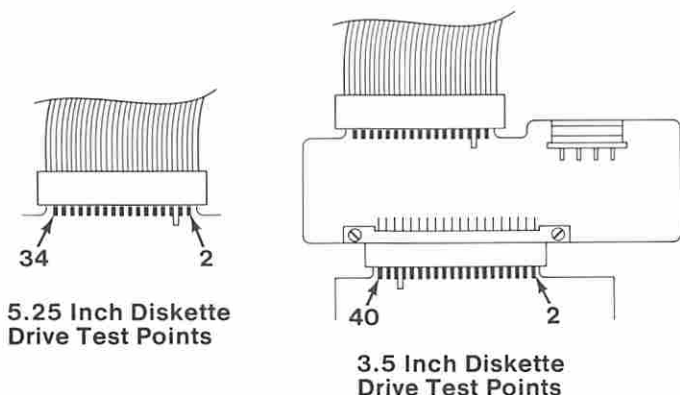

Figure 22. Voltage Check
- Power on the system and check the voltage at pin 16 of the failing diskette drive circuit board (Figure 22 on page 0600-29).